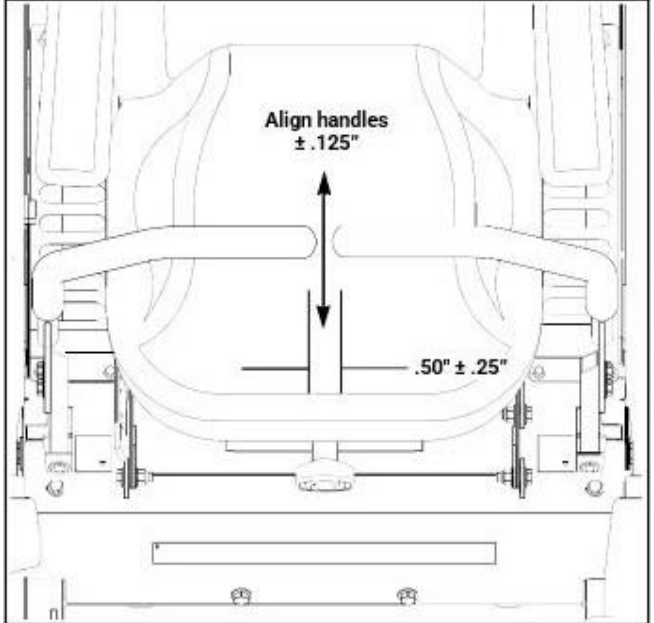

Figure 5
11. The steering control levers should be adjusted so that they align within $\pm .125"$ of each other when in the neutral position. [Figure 5]
NOTE: The space between the ends of steering control levers should be $.50" \pm .25"$. [Figure 5]